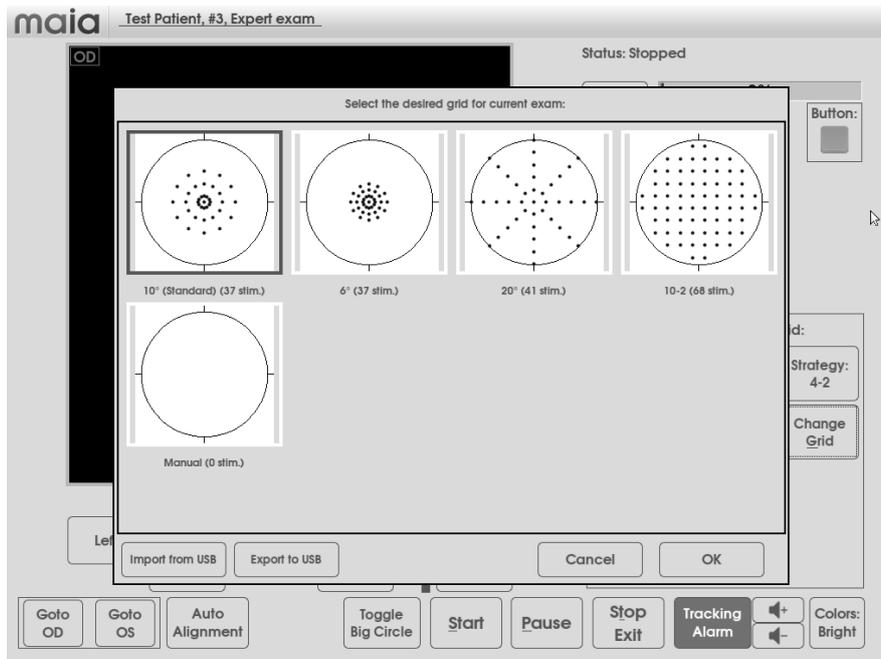

Fig. 30 – Grid selection screen (only available for expert test)
**When performing an expert test**, it is possible to select the stimuli grid by clicking on the Select Grid button (see Fig. 30). The default grid is the first one in the list (37 points, 10° macular coverage).
The 5 grids shown in Fig. 30 are the default grids coming with MAIA software. More custom grids can be created as desired as .xml files.